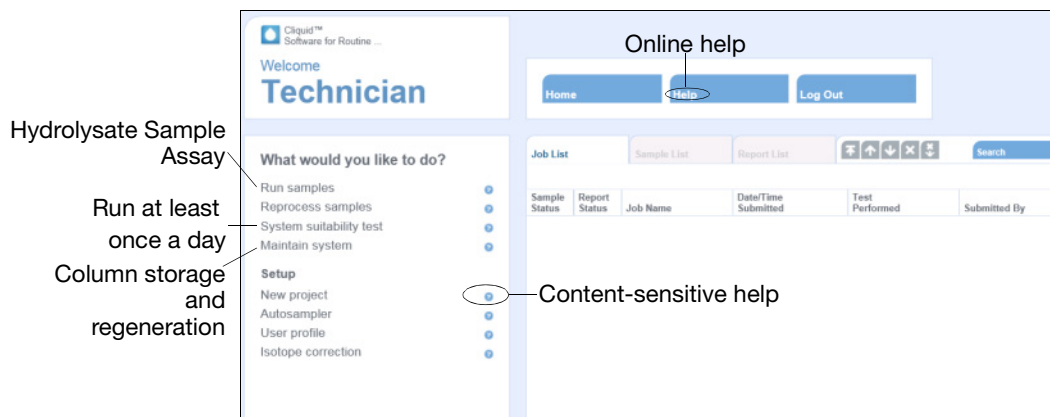

Figure 4 Features of the Home page for a Lab Technician
5. Enter your log in information, then click **Get Started**. For a Lab Technician, the Home page in Figure 4 opens. (The Home page for a Lab Manager displays additional tasks.)
6. In the Home page (Figure 4), select **System suitability test**.
1. In the Cliquid Software Home page (Figure 4 on page 26), click **New project**. The New Project screen opens.
1. In the Cliquid Software Home page (Figure 4 on page 26), select **Run samples**.